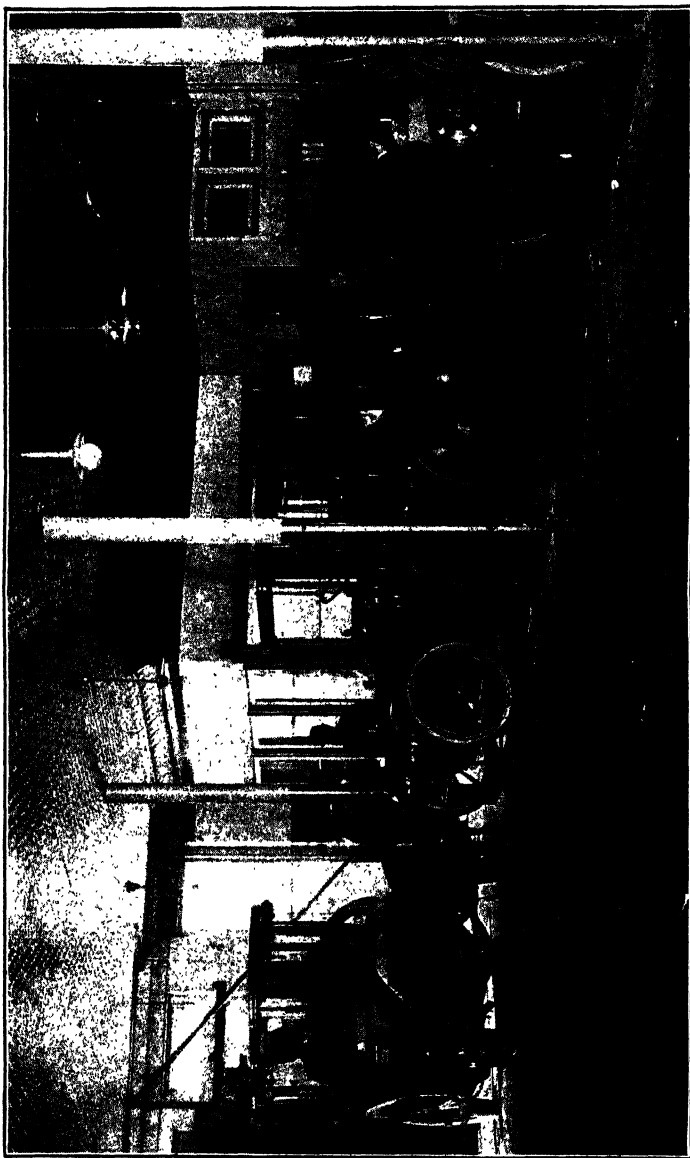

Fig. 16. Photograph Showing Ground Floor Arrangement of Garage, Shown in Fig. 15
*Layout 11.* A typical city garage, built on a very narrow lot, so narrow that the garage floor space is not economical, is shown in Fig. 15. This is the first-floor plan, as the basement is not used for cars, although the three upper floors are. The arrangement shown, with the office, clothes closets, and toilet in one corner at the front, the entrance on one side, with the elevator at the rear on the same side, the wash rack alongside the elevator, and the stairs close to the wash rack, all cut into the space so that but 19 cars can be housed. If the building were a few feet wider and had the entrance in the middle, the cars could be lined up along the two walls, in which case the single floor capacity would be in excess of 32 cars. On the upper floors this is actually done, as a large percentage of the vehicles are taxicabs, the owner of this garage being interested in a taxicab company. These taxicabs are small, being shorter than regular touring cars, and therefore need less space for standing room and for maneuvering. As a result, the second floor houses 30 cars, the third floor 30, and the top floor about 10, the balance of this floor being given up to the repair, paint, and trim shops, and to cars waiting to be put in shape. There is a wash rack on both the second and the third floors, immediately above the one shown on the ground floor. The whole makes a convenient arrangement, considering what the building is and the impossibility of lengthening or widening it, or of making any other material change. Fig. 16 shows a photograph taken on the ground floor, and Fig. 17 shows one of the upper floors. These pictures show no crowding, as they were taken during